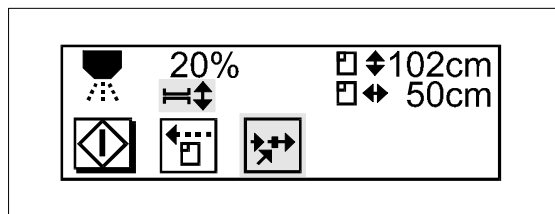

Fig. 16: Example: Control mode
- The symbol for adjustment of dosage gap lightens (Fig. 16) if the symbol for control mode is confirmed by pressing button S10.